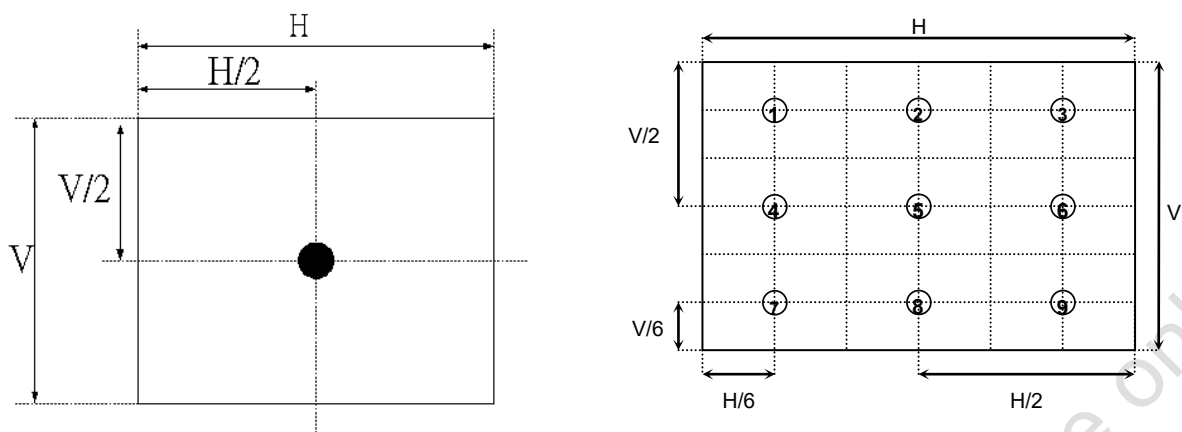

Fig. 3
- The variation in surface luminance, δWHITE is defined (center of Screen) as (**Fig. 3**):